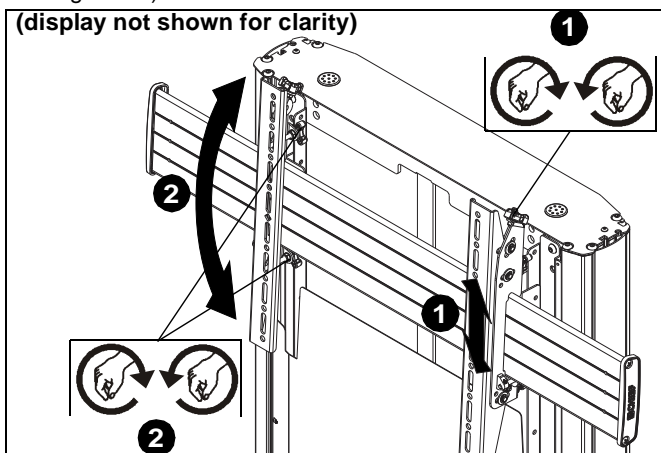

Figure 21
1. Use upper knob on back of interface brackets (A and B) to adjust the height of the display. (See Figure 21)
2. Use middle and lower knobs on back of interface brackets (A and B) to make plumb adjustments to display. (See Figure 21)